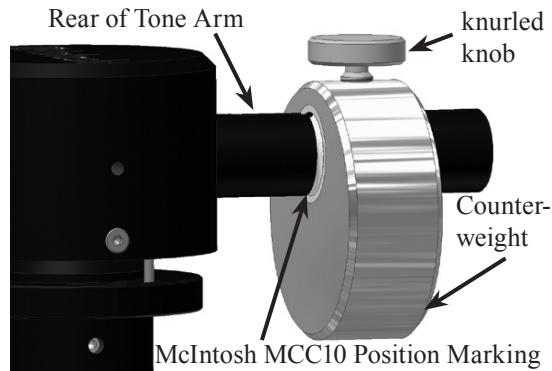

Figure 13
- Locate the Tone Arm Counterweight. Loosen up the knurled knob to permit installing the Counterweight onto the rear of the Tone Arm. Position the Counterweight on the Tone Arm so the front surface of the Counterweight lines up with the McIntosh MCC10 Cartridge position marking on the surface. Refer to figure 13. Then tighten the knurled knob to secure the position of the Counterweight.
Using an accurate Tracking Force Gauge, adjust the position of the MT10 Tone Arm Counter Weight to establish a tracking force pressure to approximately the middle of the recommend range from the Phono Cartridge manufacturer. Refer to figure 13 on page 9.